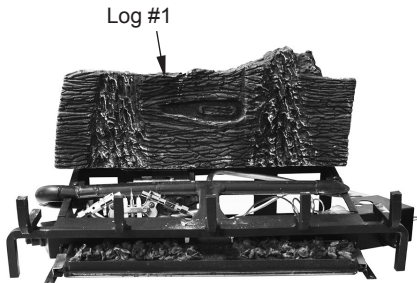

Figure 19 - Installing Log #1
1. Place log #1 onto rear grate base (see Figure 19).